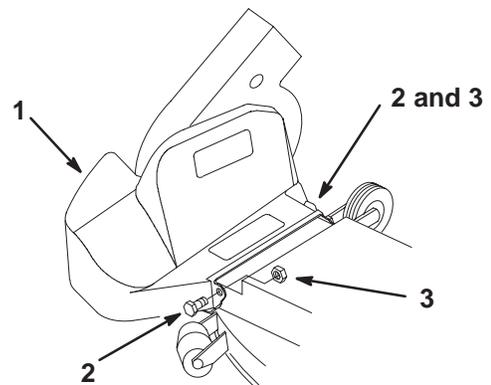

Figure 35
1. Remove the blower belt cover by removing the 2 locknuts (1/4 inch) and 2 bolts (1/4 x 5/8 inch) (Fig. 35).